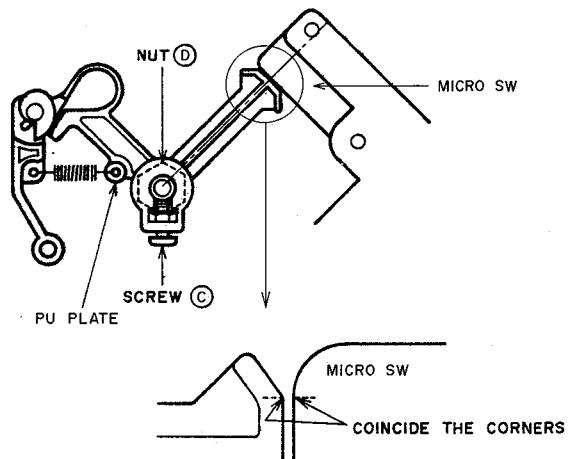

Fig. 5-3
- 3) May loosen the screw **C** a little and turn PU PLATE so that the corner of those PU PLATE and Micro SW are coincide as shown Fig. 5-3.
- 5) Next execute an AUTO RETURN operation and confirm that the AUTO RETURN position is proper. Do the fine adjustment in item 6-2 AUTO-RETURN ADJUSTMENT if necessary.